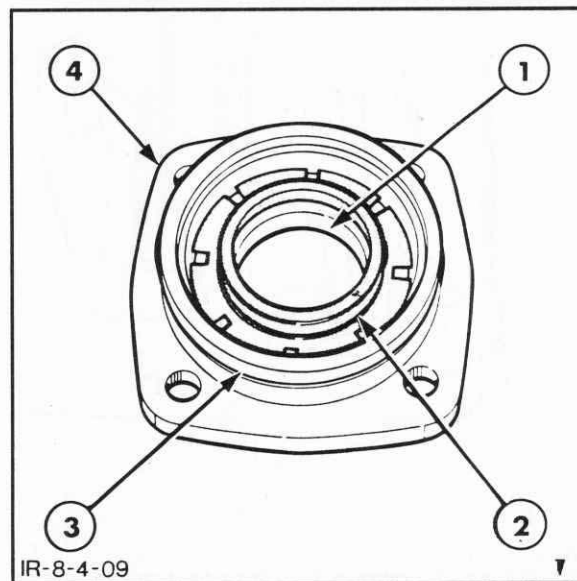

Figure 7-147
14. Using a suitable press and step plate adaptor, Tool No. 630T or 9211, remove the dust and oil seal from the output shaft end cap, Figure 7-147.